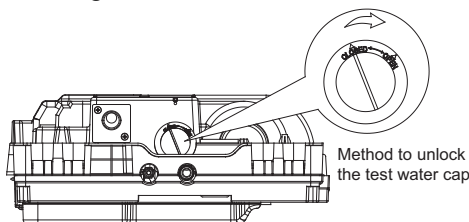

Fig. 36 —Unlock Test Water Cap
1. Remove the test cover by rotating it counter-clockwise as shown in Fig. 36.